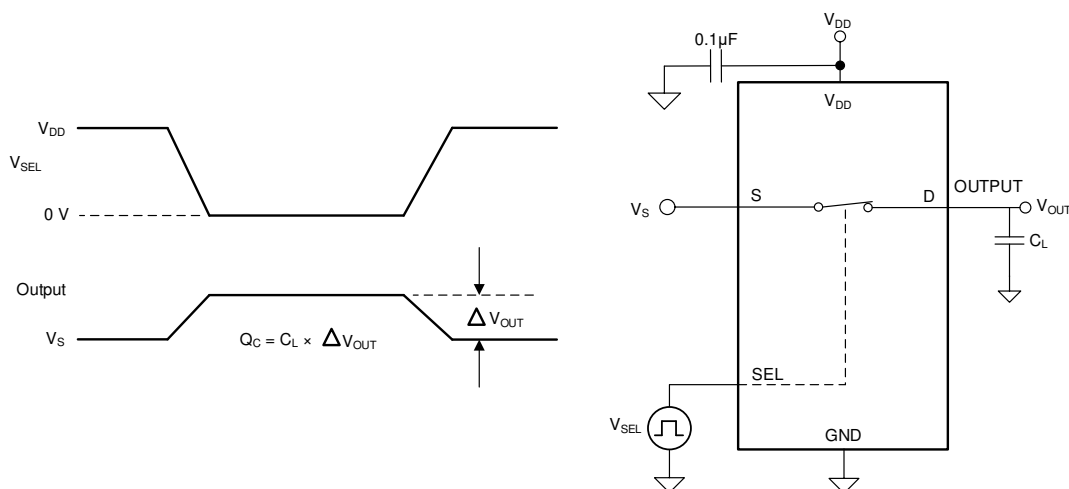

图 7-5. Charge-Injection Measurement Setup
The TMUX110x devices have a transmission-gate topology. Any mismatch in capacitance between the NMOS and PMOS transistors results in a charge injected into the drain or source during the falling or rising edge of the gate signal. The amount of charge injected into the source or drain of the device is known as charge injection, and is denoted by the symbol Q_C . 图 7-5 shows the setup used to measure charge injection from source (S) to drain (D).